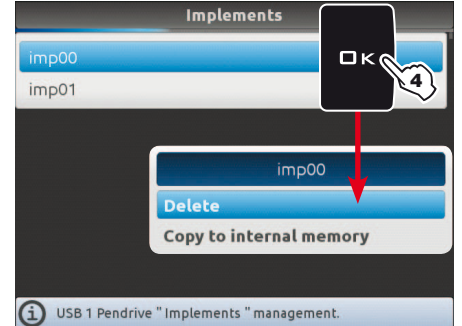

Fig. 297
- 4 In the list of memorized names select the desired implement (Fig. 297) and press **OK**.
A list of actions that can be performed for the selected implement will appear (**Delete** etc., Fig. 297). These will be described below.